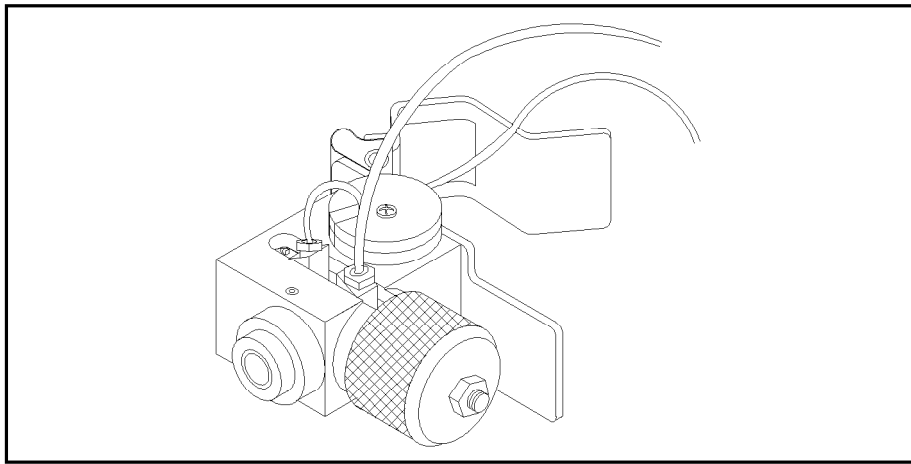

Figure 4-8. Flow Cell
Pull the spring clip backwards, slide the flow cell out of the recess and lift the flow cell out of the compartment, see Figure 4-8.
4. Using the Pozidriv screwdriver, remove the screw in the center of the heat exchanger on the flow cell, see Figure 4-8.